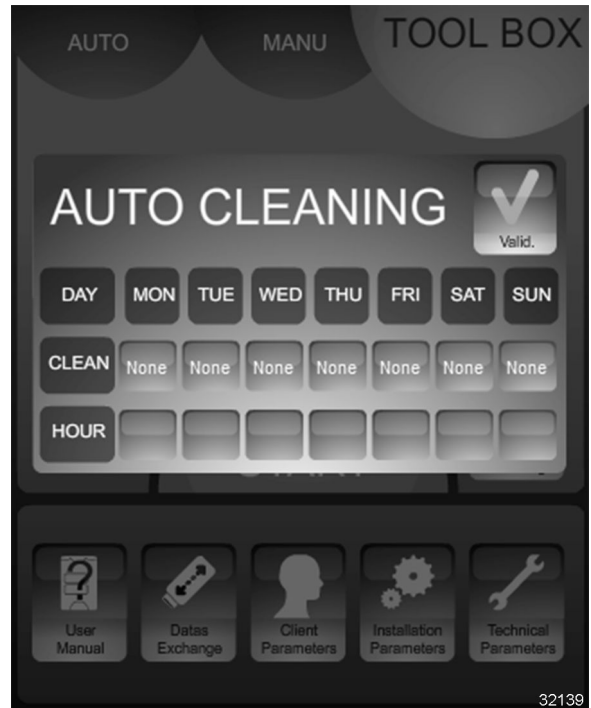

Fig. 118
2. Once the password is entered, the **Auto Cleaning** screen Fig. 118 will become active.